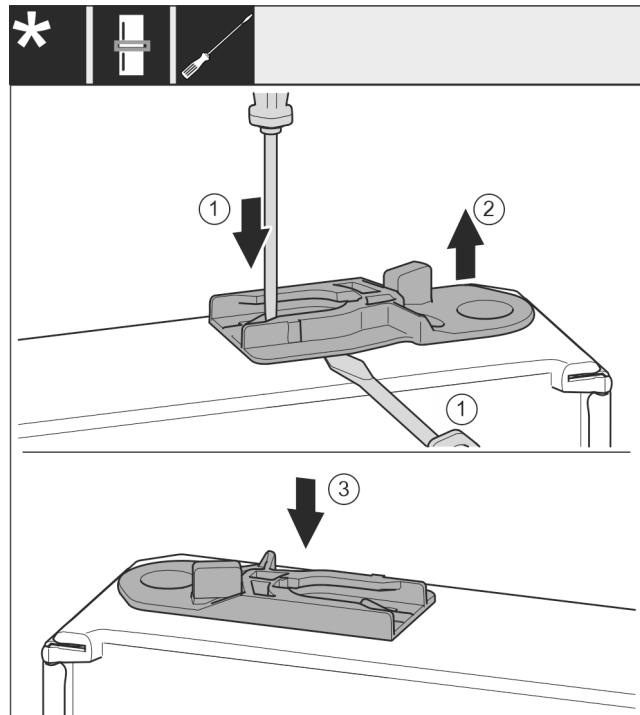

Fig. 38
- Pull out the guide bush: Press the lug with a slotted screwdriver and, at the same time, insert the slotted screwdriver under the guide bush. *Fig. 38 (1, 2)*
- Slide the guide bush included in the scope of supply to the other side of the housing. *Fig. 38 (3)*